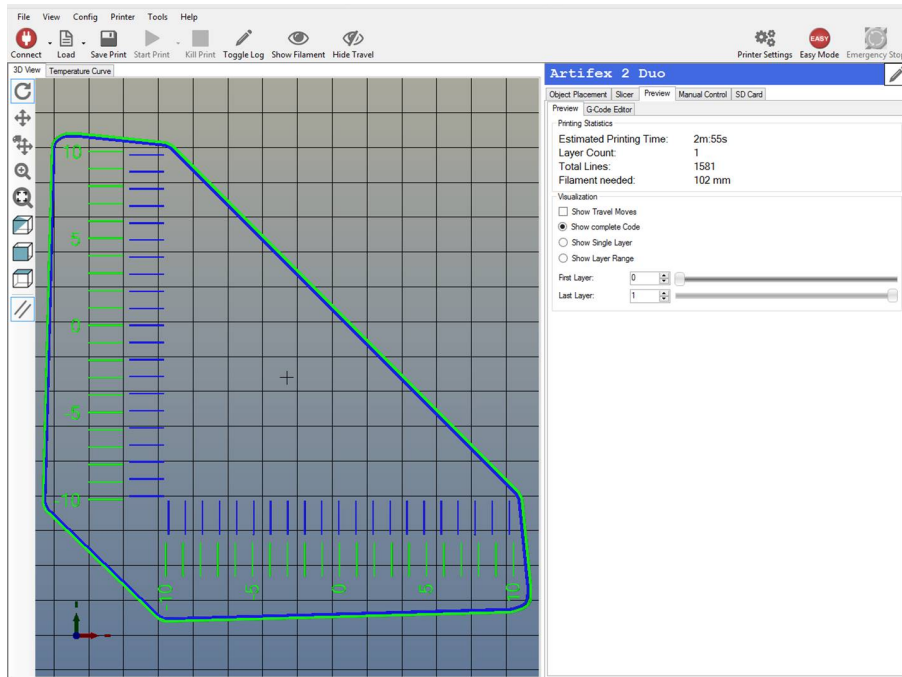

Figure 6.9: Loading Artifex 2 Duo nozzle offsets calibration model
- Download the Artifex 2 Duo Calibration G-code from our website, and load the code into Repetier-Host as shown in Figure 6.9, where the green lines to be printed by Extruder 1 and the blue lines by Extruder 2.